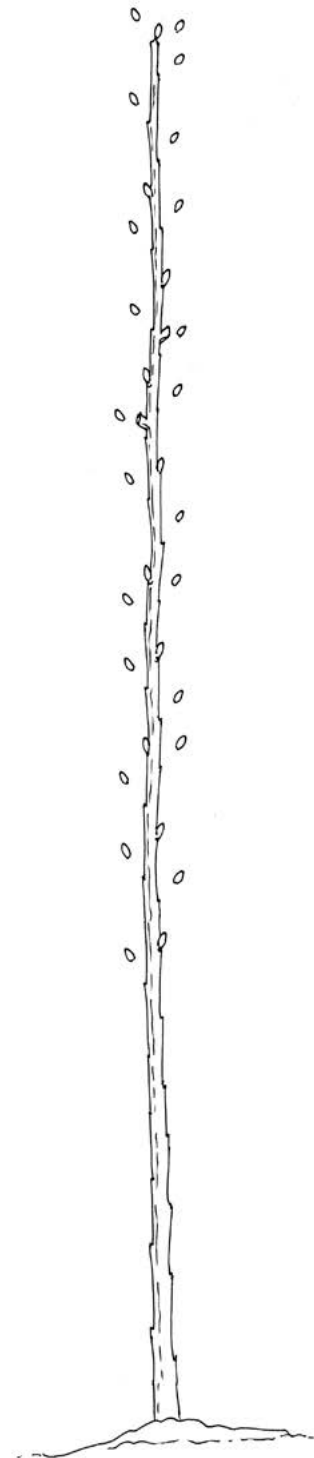

Figure 55
- Select a bud about every 4–4.5 inches down the leader that has the potential to form a continuous whorl of shoots around the leader (Figure 55).